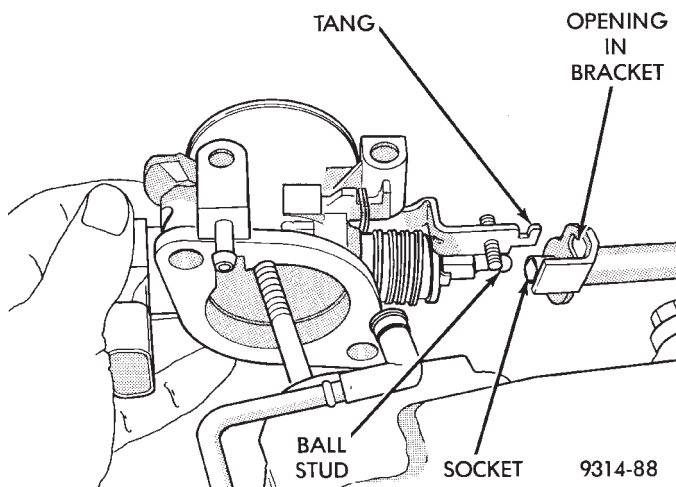

Fig. 10 Right Throttle Body Removal/Installation
tang on the end of the throttle body lever fits into an opening in the bracket on the synchronization shaft (Fig. 10).
(1) Position new gasket over throttle body mounting studs.
(2) Connect throttle body to synchronization shaft. Ensure ball stud on throttle body shaft enters socket in end of synchronization shaft. At the same time, the tang on the throttle lever locks into the bracket on the synchronization shaft (Fig. 10).
(3) Install throttle body over mounting studs.
(4) Tighten mounting nuts to 26 N•m (19 ft. lbs) torque.
(5) Connect purge tube to nipple on throttle body.
(6) Attach electrical connector to throttle position sensor.
(7) Check throttle body synchronization. Refer to Throttle Body Synchronization in this section.
(8) Install air plenum.
(9) Install air cleaner to air plenum tube.
(10) Connect negative cable to battery.